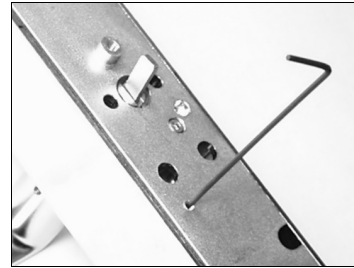

Fig. 1c: Use 1/16" hex wrench to screw in the cylinder back stop screw
- 1c. **Remove the key. Use a 1/16" hex wrench to screw the cylinder *back stop* screw in fully.** (See Fig. 1c) The key should now only rotate *counter-clockwise*.